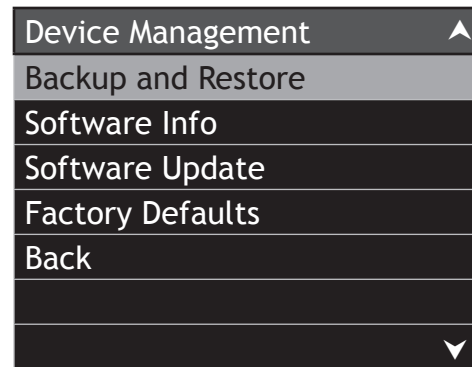

Figure 87
2. Using the ▼(Down) Push-button scroll down thru the Installer Menu to “Device Management” and then press the SELECT Push-button. Refer to figure 87.